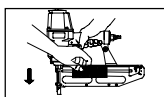

Fig. 5
7. Load fasteners into your tool following the instructions in this manual. (See Fig. 5)